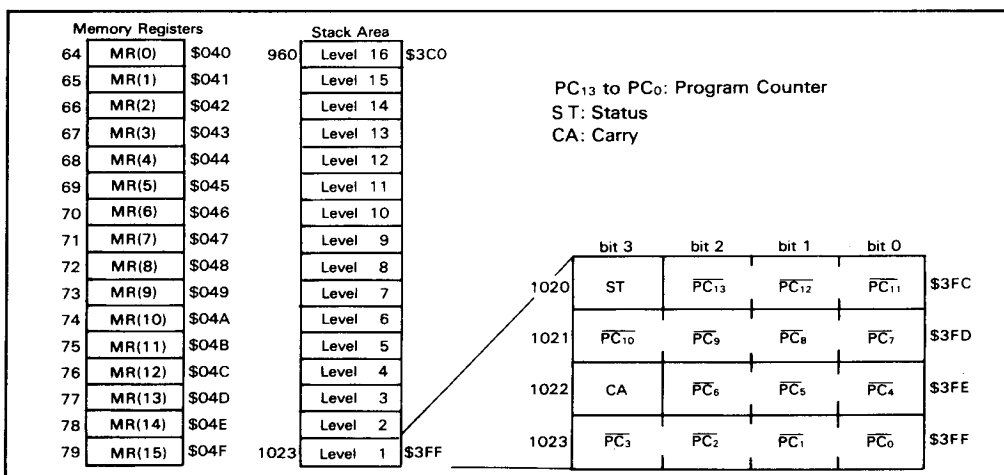

Figure 4. Configuration of Memory Register, Stack Area and Stack Position
Data Area (\$040 to \$2CF, \$100 to \$2CF; Bank1): 16 digits of \$040 through \$04F are called memory registers (MR) and are accessible by LAMR and XMRA instructions (figure 4). 464 digits of \$100 through \$2CF is select the bank of location depending on the value of V register.
Stack Area (\$3C0 to \$3FF): Locations \$3C0 through \$3FF are reserved for LIFO stacks to save the contents of the program counter (PC), status (ST), and carry (CA) when subroutine call (CAL-instruction, CALL-instruction) and interrupts are serviced. This area can be used as a 16 nesting level stack in which one level requires 4 digits. Figure 4 shows the save condition. The program counter is restored by RTN and RTNI instructions. Status and carry are restored only by RTNI instruction. This area, when not used for a stack, is available as a data area.